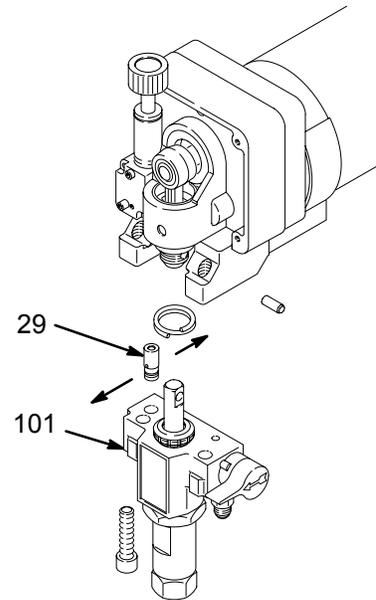

Fig. 31
NOTE: See Fig. 31 for this procedure.
2. Use a pull–twist motion to remove the transducer (29) from the pump manifold (101).
6. Align the holes in the transducer as shown by the arrows in Fig. 31.